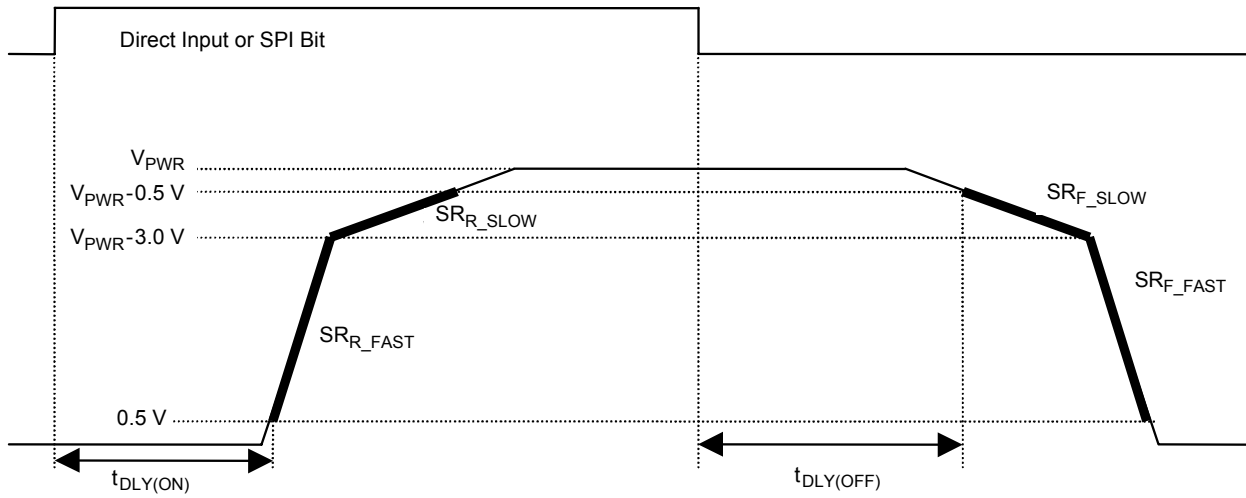

Figure 2. Output Slew Rates and Time Delays, High Side
- High-side output rise and fall fast slew rates measured across a 5.0 Ω resistive load at high-side output = 0.5 V to V_{PWR}-3.0 V (see Figure 2, page 18). These parameters are guaranteed by process monitoring.
- High-side output rise and fall slow slew rates measured across a 5.0 Ω resistive load at high-side output = 0.5 V to V_{PWR}-3.0 V (see Figure 2, page 18). These parameters are guaranteed by process monitoring.
- High-side output turn-ON delay time measured from 50% of the rising IHS to 0.5 V of output OFF with R_L = 27 Ω resistive load (see Figure 2, page 18).
- High-side output turn-OFF delay time measured from 50% of the falling IHS to V_{PWR}-2.0 V of the output OFF with R_L = 27 Ω resistive load (see Figure 2, page 18).